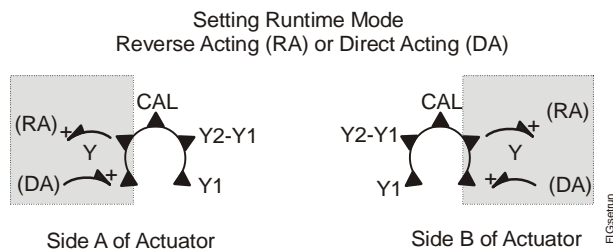

Figure 12: Mode Selector (highlighted)
The ES89B2-ZS(-S) Series Proportional Electric Spring Return Actuators are factory set for Direct Acting (DA) operation. In DA mode, applying an increasing input signal to the control input drives the actuator away from the spring return position. Reverse Acting (RA) operation is also available. In RA mode, applying an increasing input signal to the control input drives the actuator toward the spring return position. Figure 11 and Figure 12 indicate how the drive direction for the actuator depends on the spring return direction and the position of the mode selection switch.